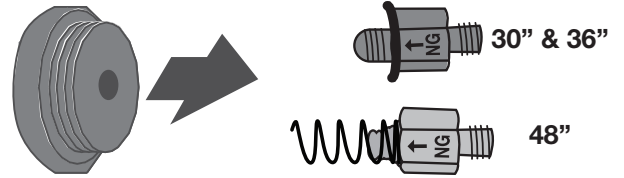

Figure 10
**4** Remove retainer pin by pulling it out (see Figure 10).